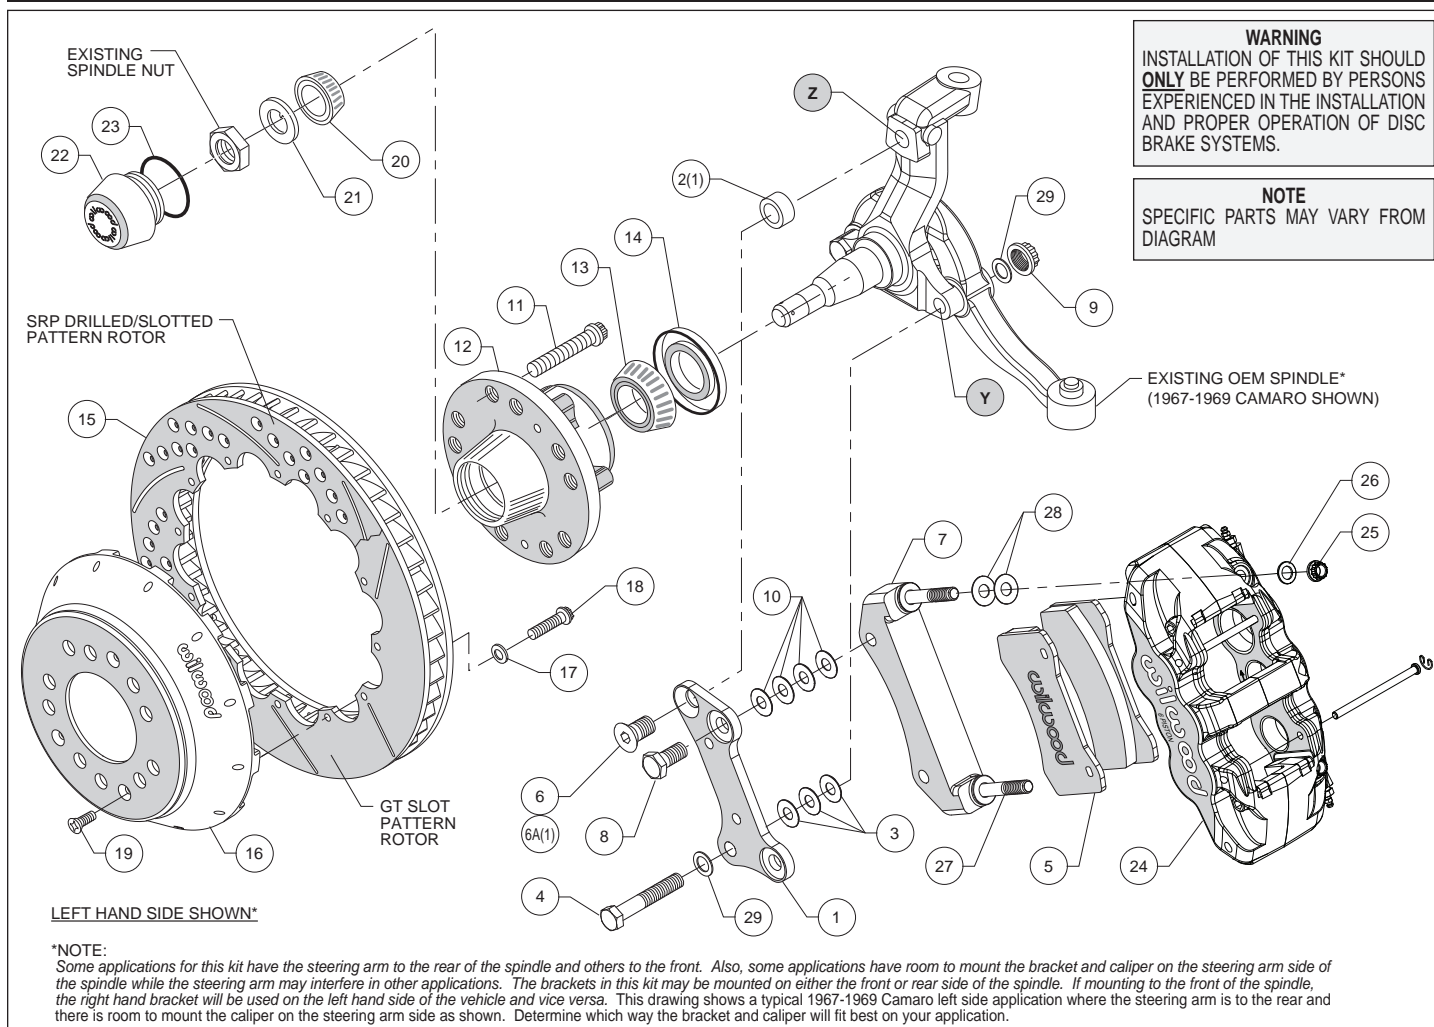
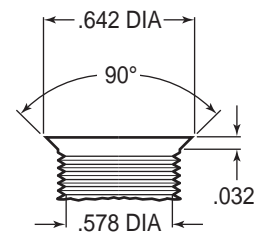
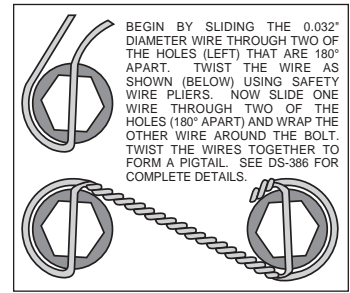

Figure 1. Typical Installation Configuration
Figure 3. Drill and Tap Detail
Figure 4. Safety Wire Diagram
Assembly Instructions (numbers in parenthesis refer to the parts list, and Figure 1 on the preceding pages):
•**NOTE:** Some applications for this kit have the steering arm to the rear of the spindle and others to the front. Also, some applications have room to mount the bracket and caliper on the steering arm side of the spindle while the steering arm may interfere in other applications. The brackets in this kit may be mounted on either the front or rear side of the spindle. If mounting to the front of the spindle, the right hand bracket will be used on the left hand side of the vehicle and vice versa. Figure 1 shows a typical 1967-1969 Camaro left side application where the steering arm is to the rear and there is room to mount the caliper on the steering arm side as shown. Determine which way the bracket and caliper will fit best on your application.
•**NOTE:** Some spindles in this year range may require the following modifications (reference Figure 1 and Figure 3): Top anchor pin hole (Z) must be drilled and tapped to the dimensions as outlined in Figure 3. The lower bolt hole (Y) in the spindle used to mount the new caliper bracket, and the mating steering arm hole, must be enlarged to .50" by drilling. It is recommended these modifications be performed by a qualified machinist.
- Install wheel studs (11) into the hub (12), Figure 1 and Photo 1. Torque to 77 ft-lb. **NOTE:** There are two five lug patterns in the hub (5 x 4.50 and 5 x 4.75). Ensure the correct hub stud pattern is being used to fit the wheel application.
- Pack the large inner bearing cone (13) with high temperature disc brake bearing grease (available from your local auto parts store) and install into the backside of the hub (12), Photo 2.
- Install the grease seal (14) by pressing into the backside of the hub (12), flush with the end of the hub, Photo 2.
- Orient the rotor (15) and the hat (16) as shown in Figure 1 and Photo 3. Attach rotor to hat using bolts (18) and washers (17). Using an alternating sequence, apply red *Loctite*® 271 to the threads, and torque to 155 in-lbs. For an added measure of security, the bolts may be safety wired using standard 0.032 inch diameter stainless steel safety wire as shown in Figure 4. Please refer to Wilwood's data sheet DS-386 (available at www.wilwood.com/Pdf/DataSheets/ds386.pdf) for complete safety wire installation instructions.
•**Disc Brake Spindle Application Only:** Follow the instructions below, but instead use bolt (6A), and spacer (2) in the upper bolt hole location, Figure 1.
•Orient the flat bracket (1) as shown in Figure 1 and Photo 4, and install using bottom bolt (4), washers (29), and nut (9), Figure 1. Initially place three .032" thick shims (3) between the bracket and spindle. Install the upper bolt (6 or 6A), Photo 5. Temporarily tighten bolts. **NOTE:** *The bracket must fit squarely against the mounting surfaces on the spindle.* Inspect for interference from casting irregularities, machining ridges, burrs, etc. Temporarily install the hub and hat/rotor assembly. Check that the bracket is aligned parallel to the rotor, Photo 6. If not, adjust by adding or subtracting shims (3) on the lower bolt between the bracket and spindle, Figure 1. Once the bracket alignment is correct, remove the upper bolt (6 or 6A), apply red *Loctite*® 271 to the bolt threads, and torque to 120 ft-lb. Torque the lower lock nut to 65 ft-lb.
•The radial mount caliper bracket (7) should initially be installed with clean dry threads on the mounting bolts. Orient bracket as shown in Figure 1, and install using bolts (8). Initially place four shims (10) on each bolt between the two brackets. Temporarily tighten the mounting bolts. Later, after the caliper alignment has been checked, the mount bolts will be secured using red *Loctite*® 271.
•Pack the small outer bearing cone (20) with high temperature disc brake bearing grease and install into hub (12). Final install the hub assembly onto the spindle. Secure using spindle washer (21), and OEM spindle nut, Photo 7. Adjust bearings per OEM specifications. Install new cotter pin (not included).
•Screw dust cap (22) into hub (12), Photo 8. Friction created by the o-ring (23) on the dust cap keeps it from unscrewing. **NOTE:** *The O.D. of the existing OEM spindle washer may be larger than the I.D. of the dust cap not allowing it to seat against the hub face. Therefore, use the spindle washer (21) supplied with the kit instead of the OEM washer.*
•Final install the hat/rotor (15 and 16) onto the hub (12) taking care to align the small countersunk holes in the hat with the small threaded holes in the hub. **NOTE:** *The hat must fit flush against the hub face or excessive rotor run out may result.* Install three flat head screws (19) through the small holes in the hat (16), Photo 9, and torque to 85 in-lb.
•**NOTE:** *This kit contains distinct right and left hand calipers that must be mounted in a specific direction, as described below.* Lubricate the caliper mounting studs (27) with lightweight oil. Initially place two .030" thick shims (28) on each stud between the caliper and the bracket, as shown in Figure 1 and Photo 10. Mount the caliper (24) onto the bracket (8) using lock nuts (25) and washers (26), Figure 1. Ensure that the caliper is mounted so the largest pistons are at the rotor exit end of the caliper, in relation to the direction of rotor rotation. Temporarily tighten the lock nuts and view the rotor through the top opening of the caliper. The rotor should be centered in the caliper, Photo 11. If not, adjust by adding or subtracting shims (10) between the flat bracket (1) and the radial mount bracket (8). Always use the same amount of shims on each